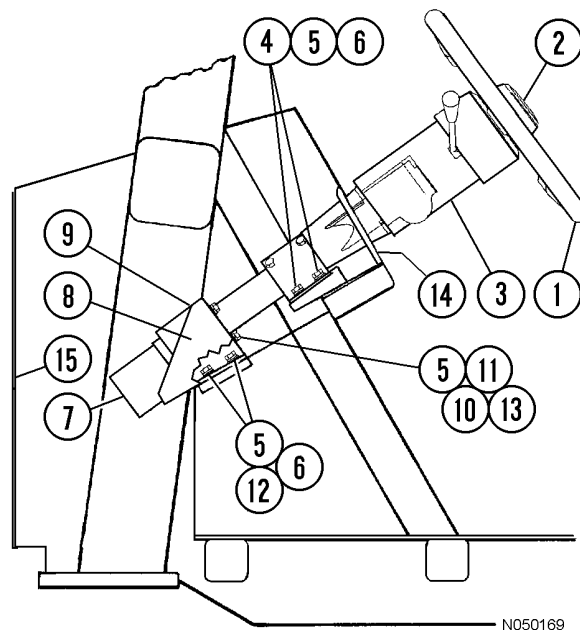

FIGURE 5-2. STEERING COLUMN INSTALLATION
3. Remove access cover (15, Figure 5-2) from the front of the cab.
4. Loosen capscrews (10) on steering control unit (7) and move it out of the way.
6. Remove the screws that secure trim cover (14) where the steering column enters the instrument panel. Remove the cover.
7. Remove capscrews (12) and brackets (8) and (9).
8. Remove four capscrews (4) with flat washers (5) and lockwashers (6). Access these capscrews from the front of the cab through the access opening.
1. Insert capscrew (10, Figure 5-2) with lockwashers (11) and flat washers (5) through brackets (8) and (9), then through the steering column flange. Add second flat washer (5) and nut (13) to each capscrew to hold the parts together. Tighten the nuts securely.
2. Slide the entire assembly down the tapered blocks until brackets (8) and (9) contact the mounting surface in the cab. Install capscrews (4) and (12) with flat washers (5) and lockwashers (6). Tighten capscrews (4) only.
3. Inspect brackets (8) and (9) to see whether they contact the mounting surface evenly and are flat and inline with the surface. If they are, tighten capscrews (12). If brackets are not quite parallel, install flat washers as needed between the brackets and mounting surface to eliminate any gaps. Tighten capscrews (12) to the standard torque.
4. After capscrews (4) and (12) are tightened to the standard torque, remove nuts (13) and flat washers (5) that were holding the steering column to the two brackets. Do not remove capscrews (10) from the brackets.
6. Without removing capscrews (10) from the holes, move steering control unit (7) into place and start each of the capscrews.
7. Tighten four capscrews (10) to the standard torque.